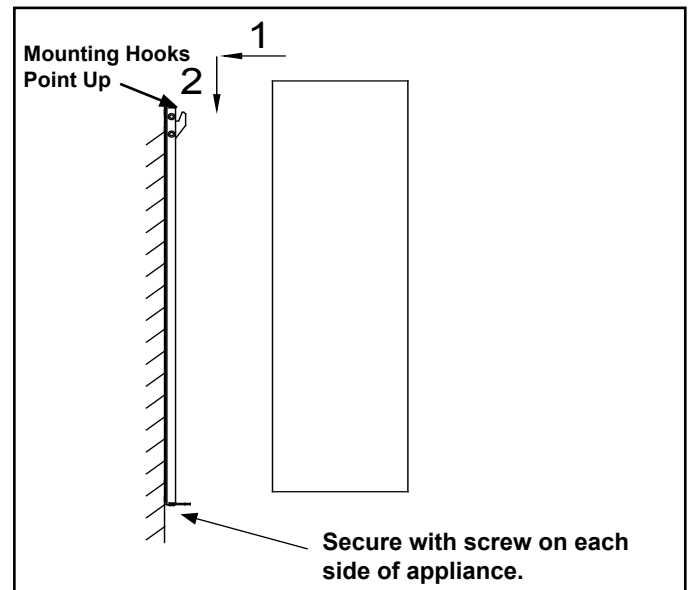

Figure 4.7 Attaching Fireplace to Bracket
1. Hang appliance on the mounting bracket. Align the slots on the back of the appliance with the hooks on the top two corners of the bracket. Hang the appliance and pull down to ensure the hooks are fully engaged. See Figure 4.7.
2. Secure the appliance to the bracket with two M5x10 screws. See Figure 4.7.